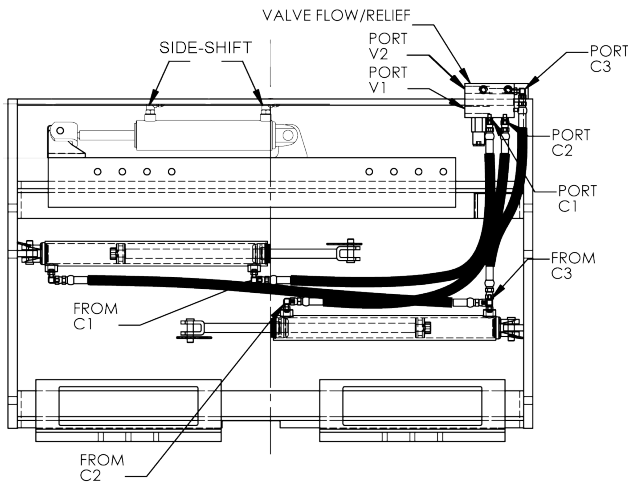

Figure 4-4, Hydraulic Connection
9. Install the bolt-on lower hooks. Inspect clearance to the carriage on lower hooks. Adjust the lower hooks for a maximum clearance of **3/32"** (see Figure 4-4). On Class II and Class III units, tighten the 3/8" bolts to **33 ft-lbs**. On Class IV units tighten the 1/2" bolts to **77 ft-lbs**. On units using 9/16" UNC bolts, tighten the bolts to **112 ft-lbs**.
1. Install the lines from the truck's hydraulics to the attachment hydraulics. (Figure 4-4)